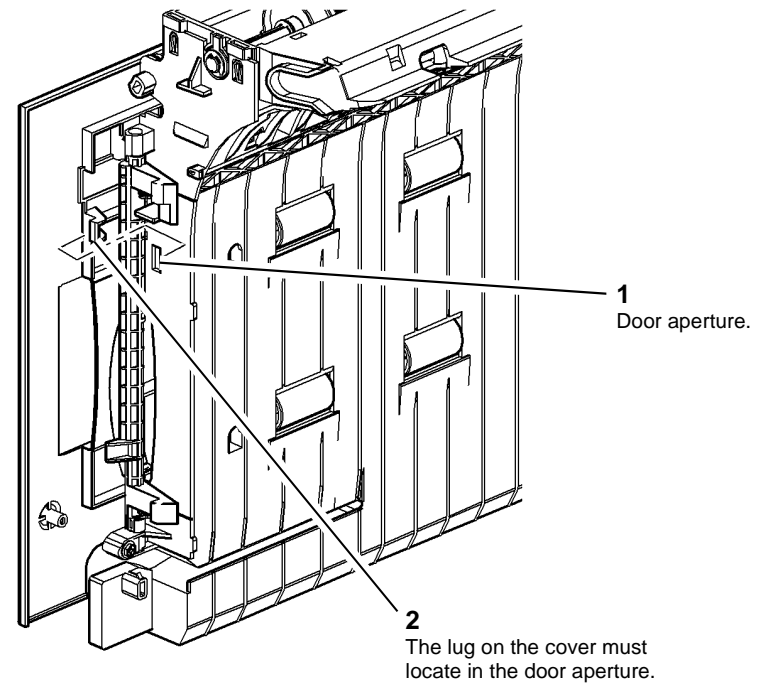

Figure 5 Cover location
2. Ensure that the cover is located correctly on the left hand door assembly, Figure 5.